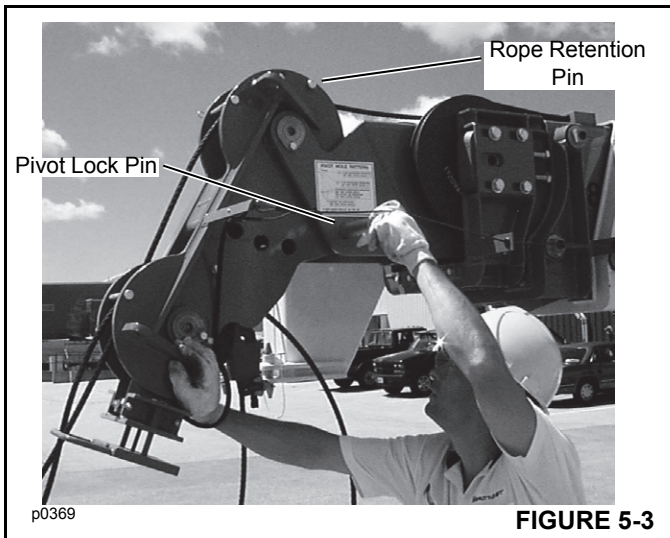

FIGURE 5-3
3. Remove the retaining clip from the rope retention pin, remove the rope retention pin from the top of the boom head (Figure 5-3).
4. Remove the lynch pin from the pivot lock pin (Figure 5-3).
5. Remove the pivot lock pin (Figure 5-3).
3. Remove the retaining clip and rope retention pin from the top of the boom head (Figure 5-3).
8. Install the rope retention pin and retaining clip into the top of the boom head (Figure 5-3). Check that the wire rope is not contacting retention pin at the top of the boom head.